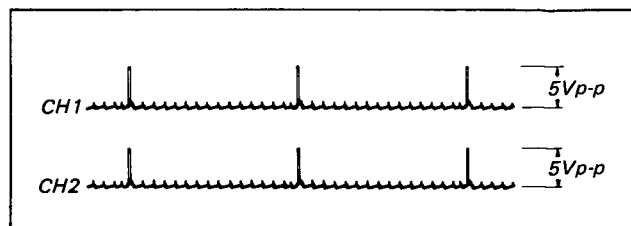

Fig. 2-4 Battery Failure Adjustment
- 3) Rotate RV801 on the HD-5 Board and set to the position where a pulse is generated on CH2. (See Fig. 2-4.)